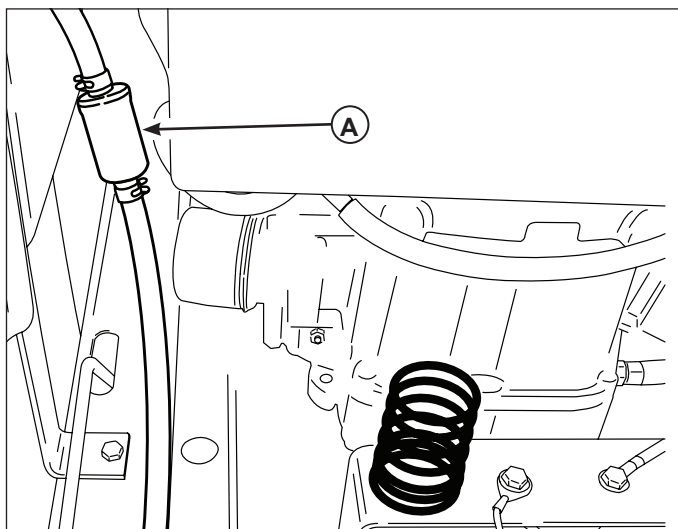

Figure 11. Fuel Filter Replacement
3. Using pliers, open and slide hose clamps from fuel filter (A, Figure 11).